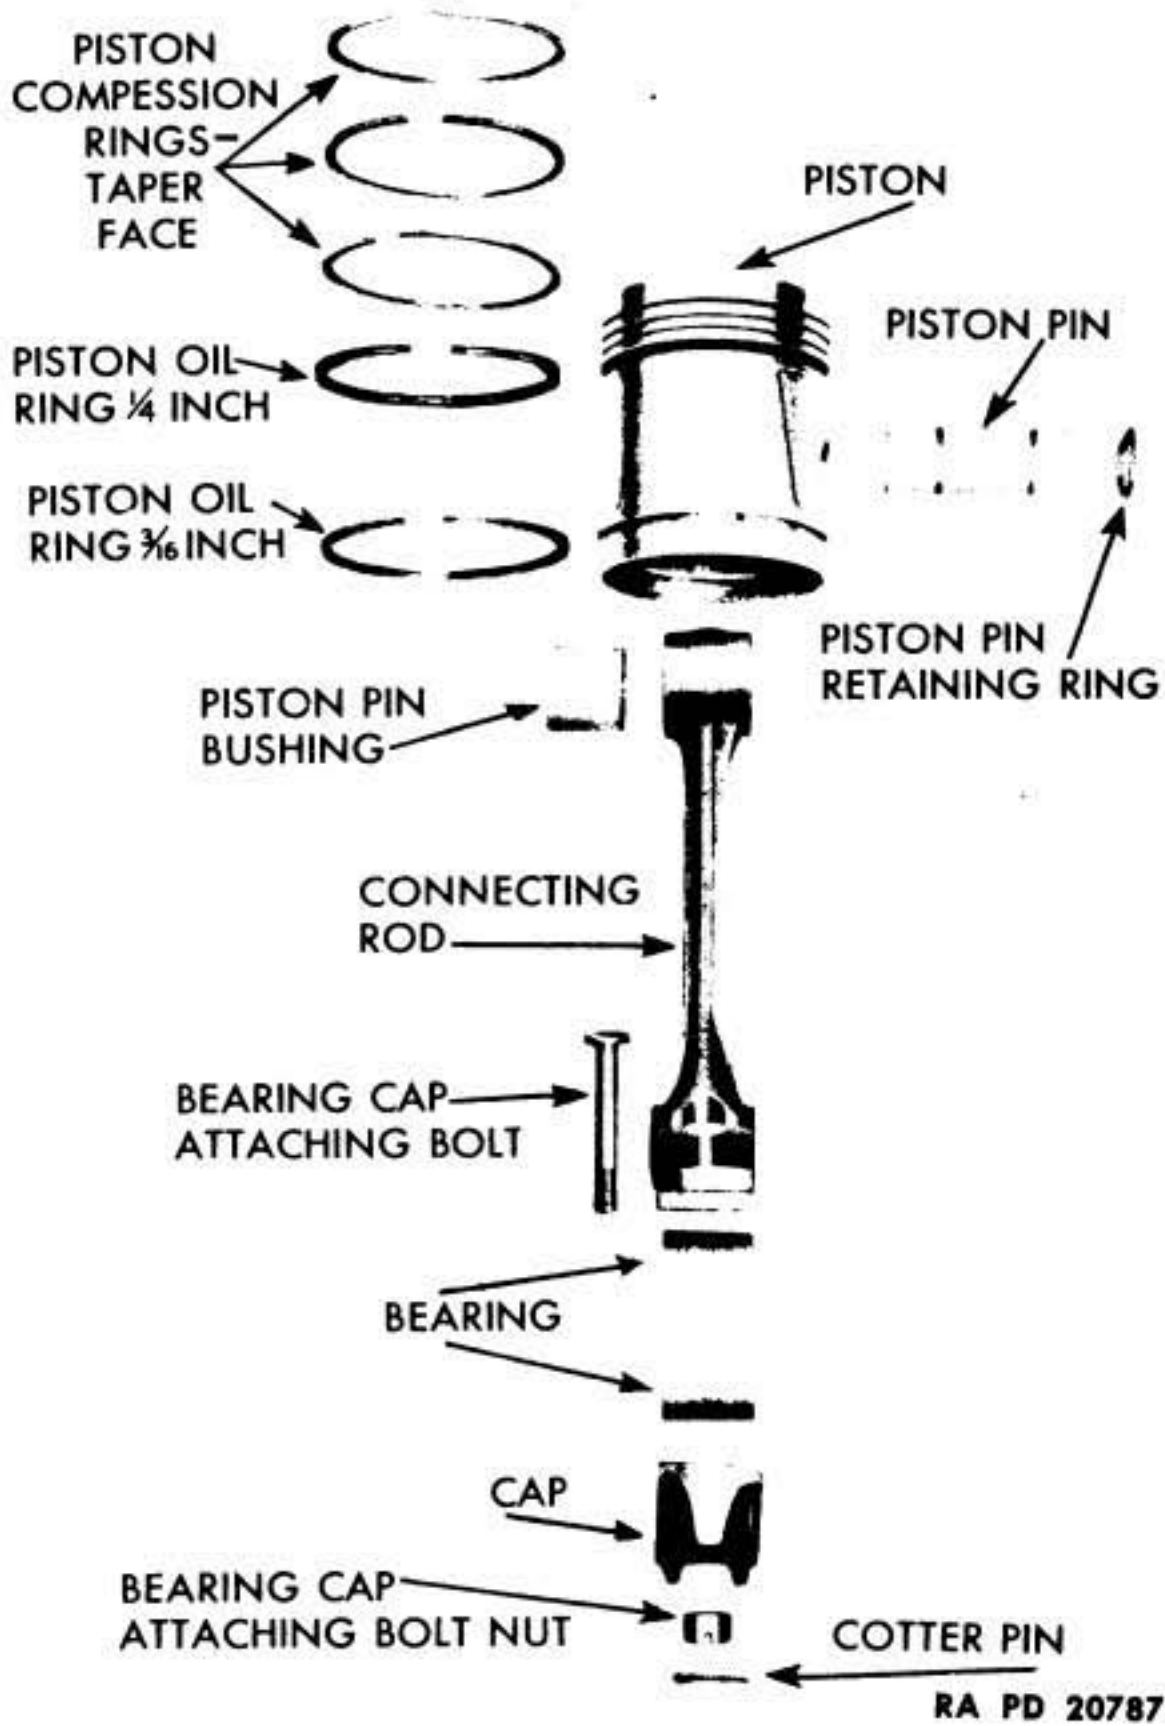

Figure 55 — Piston and Connecting Rod Components
b. **Clean** (fig. 55). Clean all parts with dry-cleaning solvent, and dry with compressed air. Scrape carbon from head of piston. Clean ring grooves with piece of piston ring ground to a chisel edge, or with a groove-cleaning tool.
e. **Assemble.** Heat piston in water to approximately 160°F. Position piston over rod so that piston pin hole in rod lines up with hole in piston. Push piston pin into place, and install new piston pin lock rings (fig. 53). Place piston rings in their proper grooves (fig. 55), using a piston ring removing and replacing tool. **CAUTION:** *Always use new rings when installing new pistons. Be sure to install compression rings with side marked "TOP" toward head of piston.*
b. **Inspect.** Check crankshaft flange contact face of flywheel for nicks or other damage. Examine ring gear for worn or broken teeth. If ring gear is damaged, refer to subparagraph c (1) below